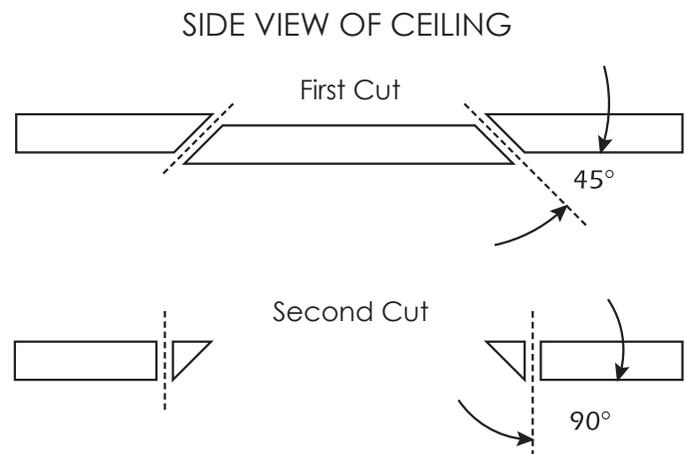

Figure 3
4. Cutting the hole. **CAUTION:** This is the most important part of the entire installation. If you are not certain whether any obstructions exist behind the desired mounting area, you should start by cutting a small hole in the center of your penciled mounting hole with a drywall saw. Cut at a 45° angle towards the inside of the hole (Figure 3). Cutting the small hole at this angle will make drywall repair much easier as the piece cut out can be installed neatly back into the hole. Once you have determined there aren't any obstructions in your desired mounting location, start cutting the finished hole at a 90° angle to the wall surface.